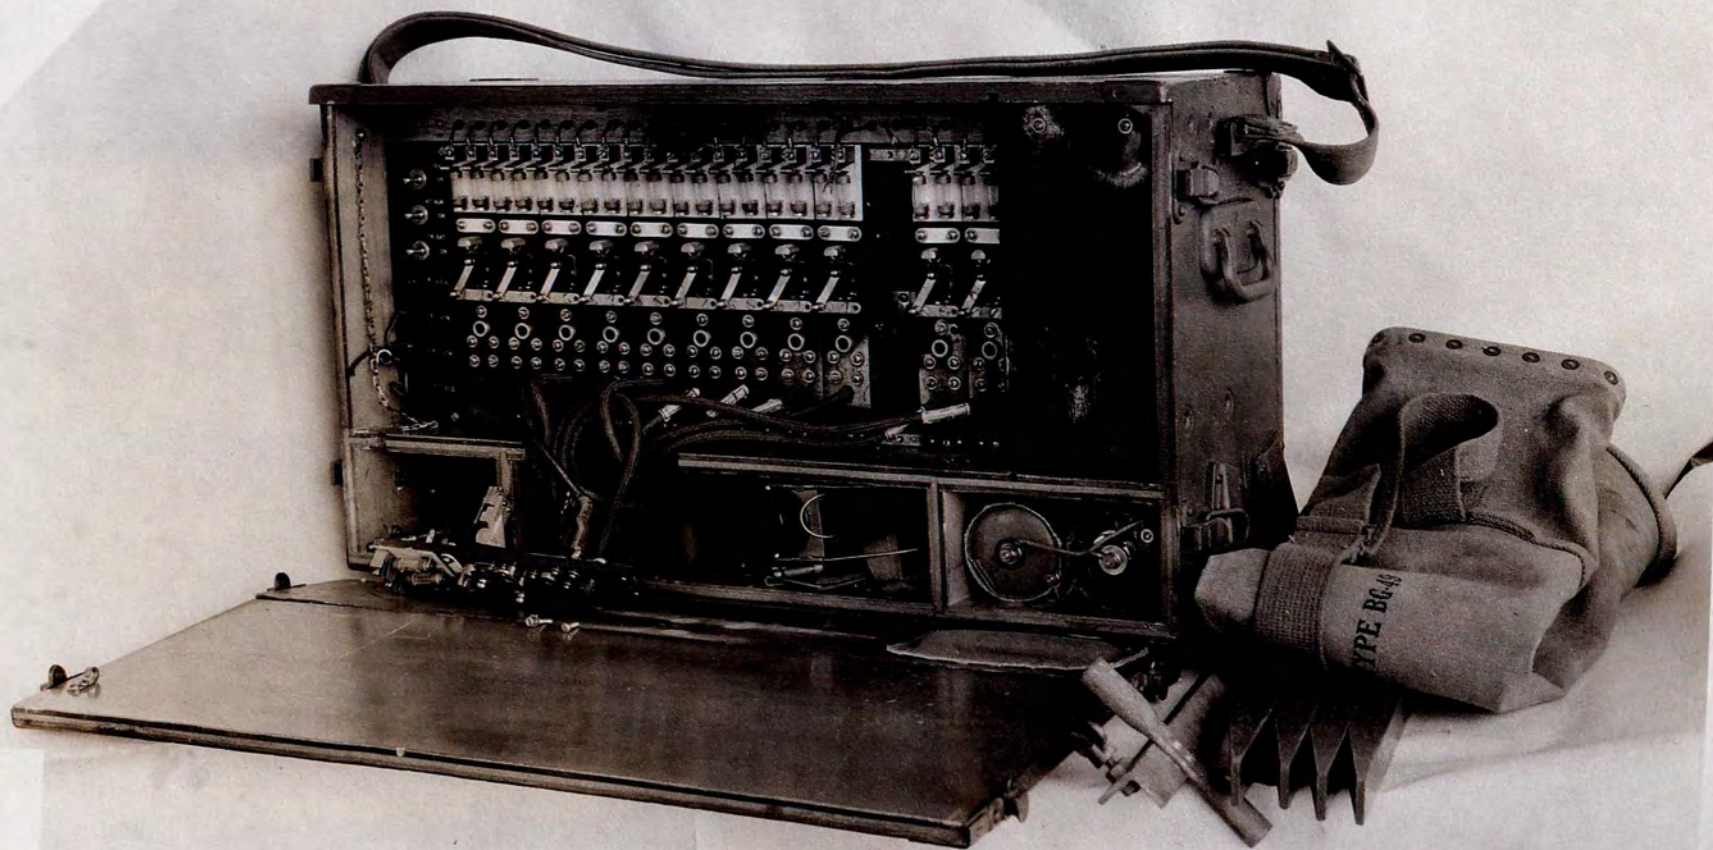

FIG. 4 - SWITCHBOARD BD-82-T2 AND SUPPLEMENTARY EQUIPMENT
- Fig. 4 - Switchboard BD-82-T2 and supplementary equipment.
6. Switchboard BD-82-T2 is similar to that described above except it has twelve Switchboard Units EE-2 and three Coils C-75 connected in the first three line circuits. The chest is 9" deep, 13-1/2" high and 24" long, and is fitted with a handle at each end in addition to the carrying strap. The switchboard, complete with batteries and coils, weighs 67 pounds. The bag and supplementary equipment weigh 7 pounds. Figs. 4, 5 and 6 show the three views of Switchboard BD-82-T2.